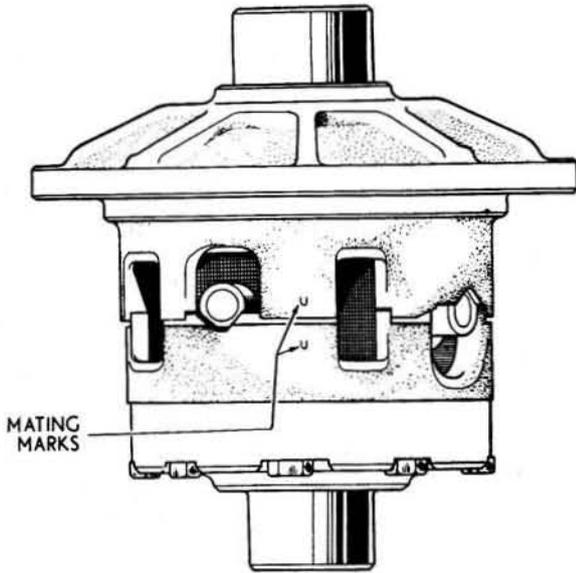

Fig.8.13. Mating marks on the differential case
- 1 Before dismantling commences, check for mating marks on the two halves of the casing (Fig. 8.13). Make your own marks with a centre punch or a scriber if none are visible.